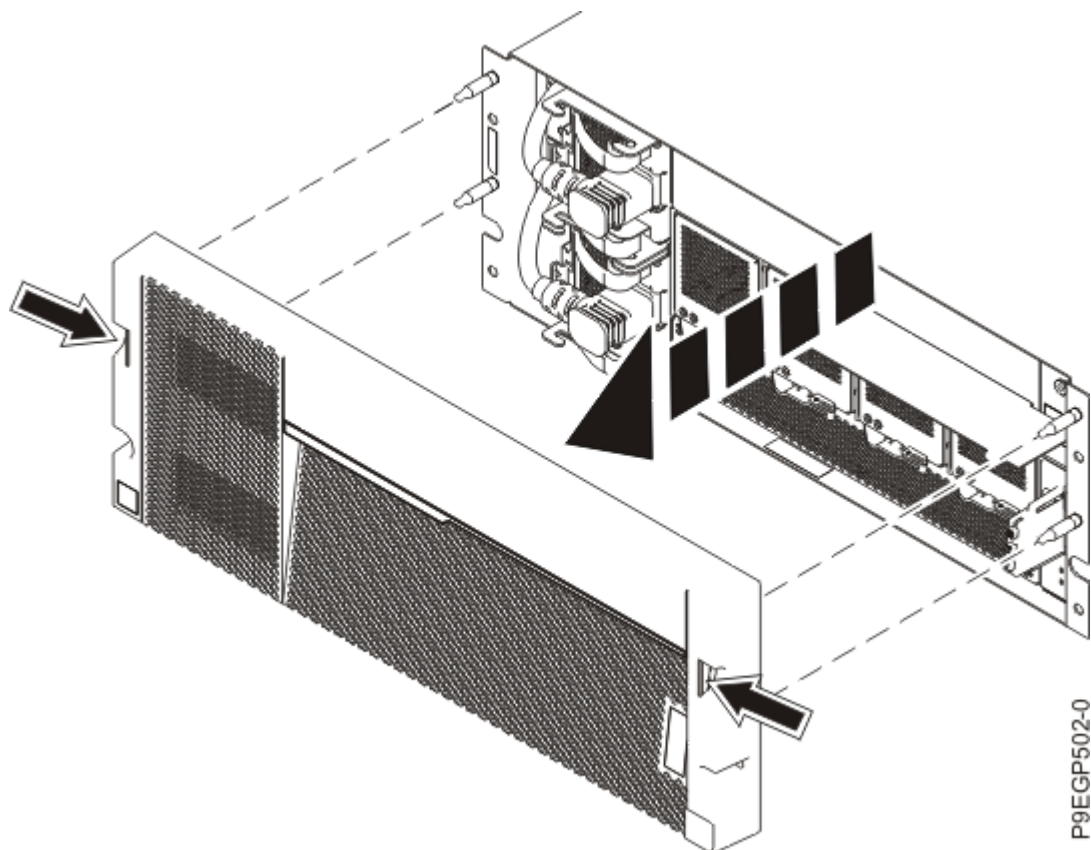

Figure 8: Removing the cover and the service information card
- b. Using the two blue touch points on each side of the drawer, pull the cover straight out to remove the cover from the front of the drawer as shown in Figure 8 on page 12.